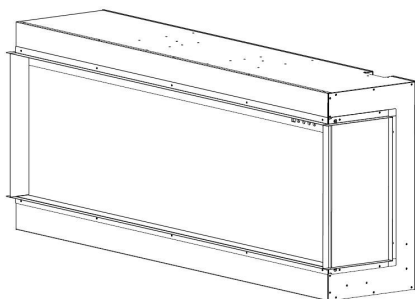

Fig.2-1
1. The fireplace is fixed with fending bars and panels on the left and right side. Fig.2-1,2-2